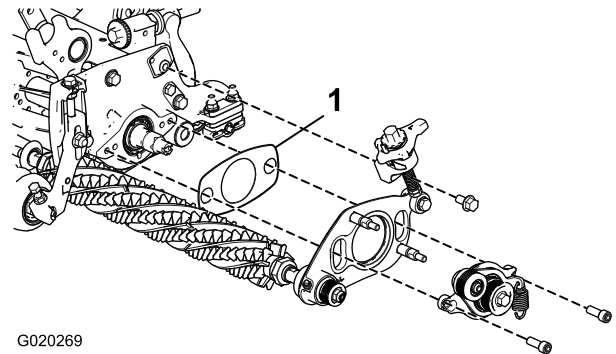

Figure 29
6. Make sure that the shim (Figure 29) between the drive side groomer pivot plate and the cutting-unit side plate is not pinched by the pivot hub. The shim must be able to move freely.